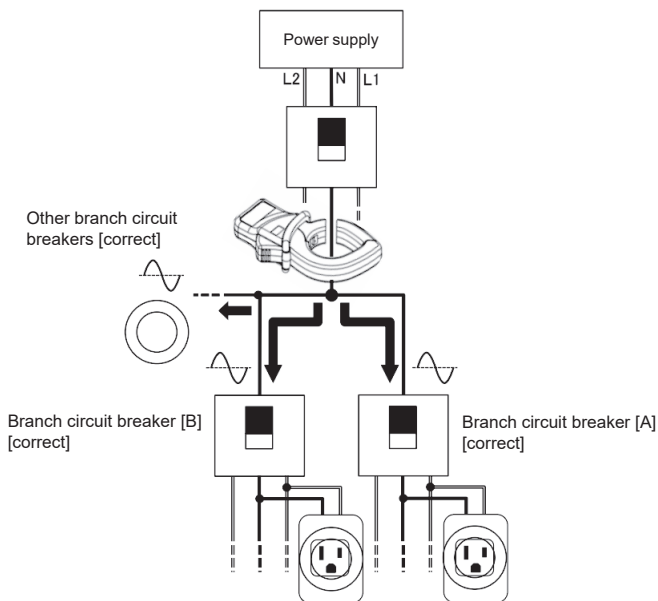

Fig. 6-16
- When the test voltage injection clamp is connected close to the distribution board, KEW 4506 can test the outlet which is wired to branch circuit breaker [B] shown in Fig. 6-15 and judge as “PASS” (correct); however, it is NOT recommended to connect test voltage injection clamp to the position shown in Fig. 6-16. This is because KEW 4506 may show “ $\Delta N \leftrightarrow E?$ ” if multiple loads are connected to an outlet wired from any of the other branch circuit breakers, which is not the one to be tested, and where those loads are active.